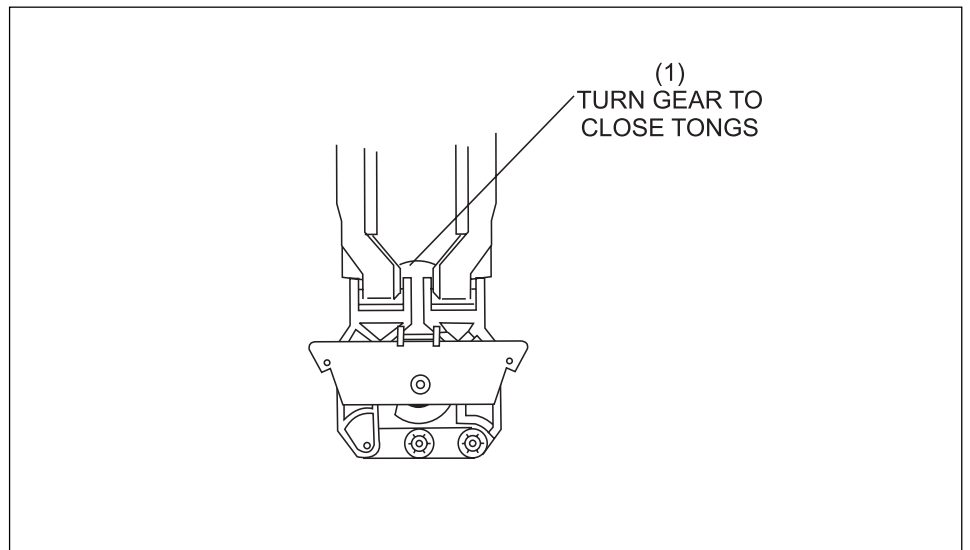

Figure 8-13. Spotting Tongs Completely Closed.
- Turn the gear on the bottom of the spotting tong assembly until the tongs are completely closed. Refer to *Figure 8-13*.